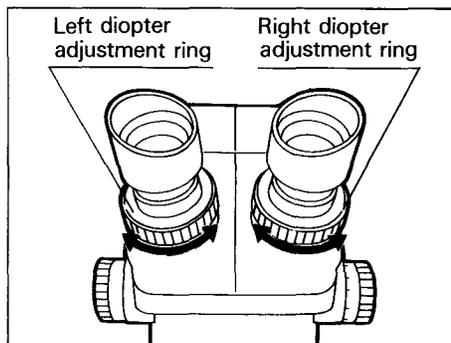

Fig. 4
- (4) If the specimen goes out of focus, read just the focus by turning the right diopter adjustment ring only. (Fig. 4)
- (5) Maximize the magnification power again by turning the zoom control knobs. If the specimen goes out of focus, repeat steps (2) through (4) above. This allows more precise diopter adjustment.
- (6) Minimize the magnification power by turning the zoom control knobs and, looking through the left eyepiece, bring the specimen into focus by turning the left diopter adjustment ring only. (Fig. 4)